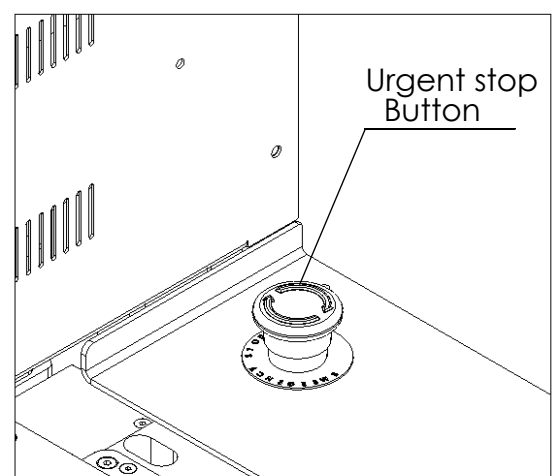

Figure.19
- d) Ensure that urgent stop button of the machine is open. (Figure.19)
- c) Ensure that urgent stop button of the machine is open. (Figure.19)
- d) Press the urgent stop button. (Figure.19)
- d) Press the urgent stop button of the machine. (Figure.19)
- g) Open the urgent stop button. (Figure.19)